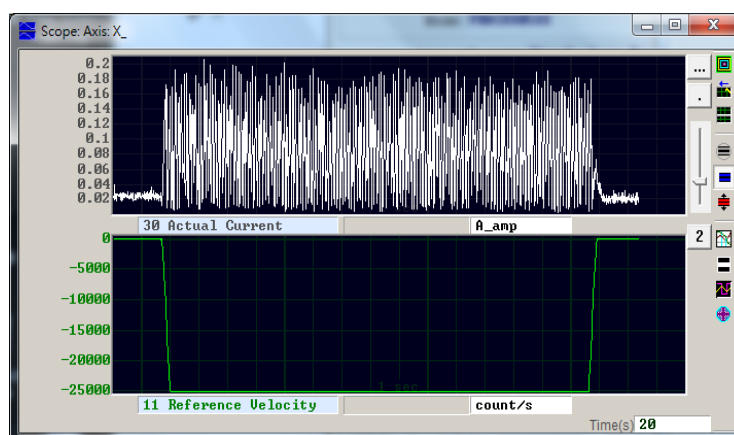

Figure 5.6.4.2
Step 1: Open Scope, as figure 5.6.4.2. Set to observe the value of Actual Current.
Step 3: Observe the value of Actual Current and record the maximum value, as figure 5.6.4.2. The maximum value is about 0.2 A. End stop current can be slightly larger than 0.2 A. In this case, End stop current can be set to 0.23 A.